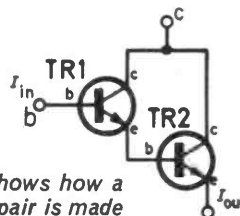

Fig. 9.3a. Shows how a Darlington pair is made up.
A Darlington pair is a two transistor hook up which gives a very high current gain and although widely used in many branches of electronics it is convenient to introduce it during this discussion on power amplifiers, see Fig. 9.3a.
9.3. In the circuit of Fig. 9.3a, with zero signal, calculate the voltages as follows: